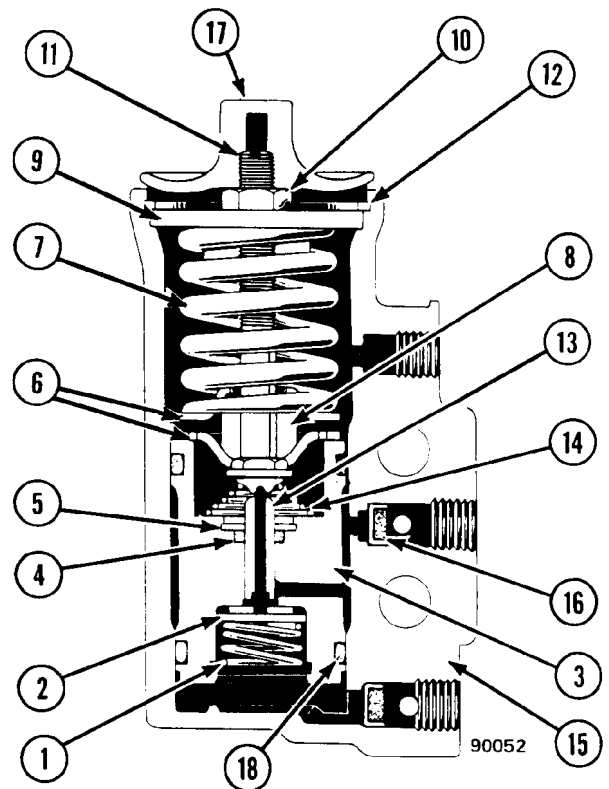

FIGURE 3-2. AIR GOVERNOR
1. Loosen and remove top cover (17, Figure 3-2).
2. Remove the spring assembly retaining ring (12) and lift out spring assembly.
3. Remove locknut (10) and upper spring guide (9) from adjusting screw (11).
4. Remove pressure setting spring (7), spring guide (6) and spring guide (8) from adjusting screw.
5. Remove the exhaust stem (13) and its spring (14) from top of piston (3).